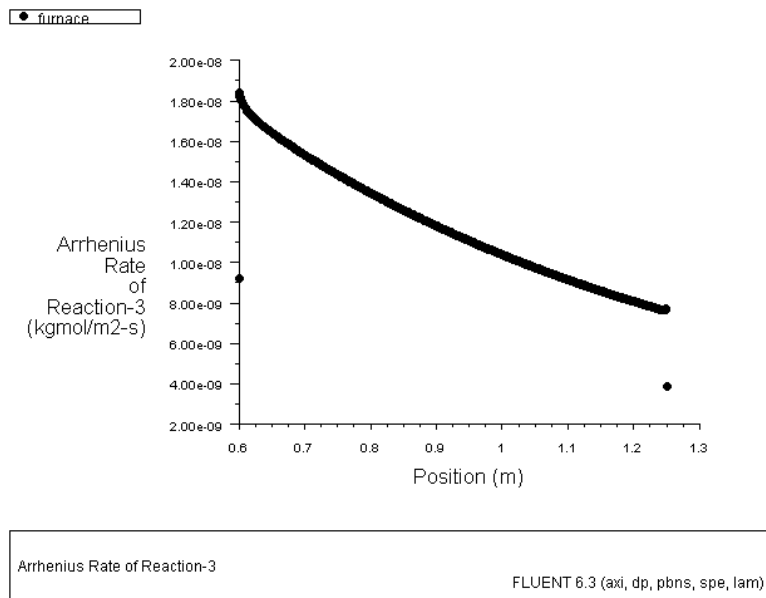

Figure 13.11: Predicted Arrhenius Rate of Reaction-3 Distribution.
- 4. Plot the arrhenius rate of reaction-3 distribution (Figure 13.11).